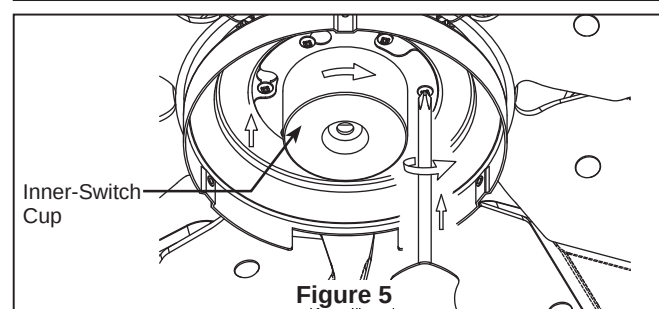

Figure 5
- ☐ 5. Route the two 80 in. wires through motor coupling cover, canopy screw cover and ceiling canopy. (Figure 5)
5. Attach the inner-switch cup to the support flange using the remaining three screws and fully tighten. (Figure 5)
☐ 5. The remote buttons instruct as below: (Figure 5)